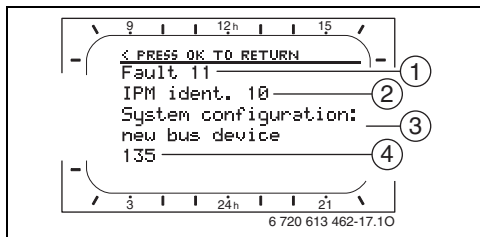

Fig. 15 Fault display
Information displayed (→ items 1, 3 and 4 in Fig. 15)